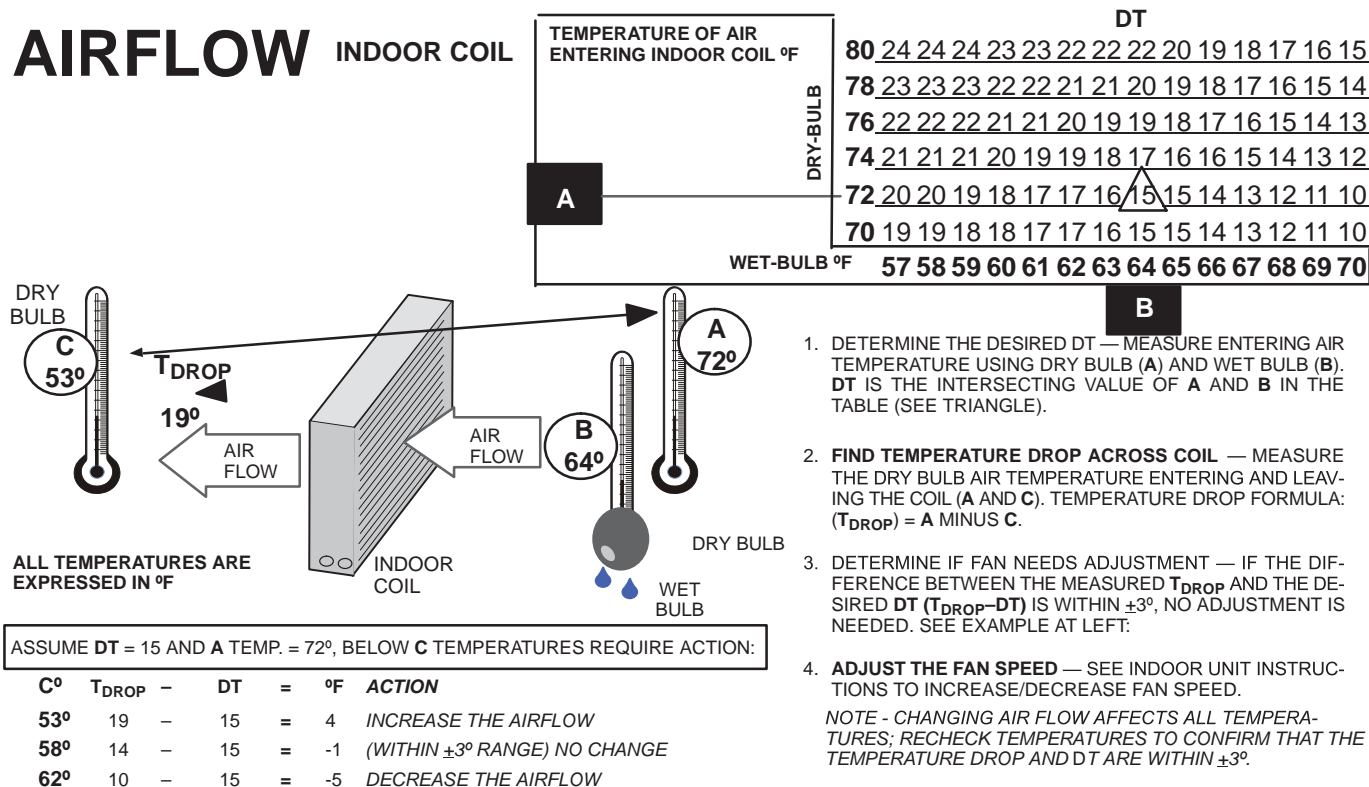

FIGURE 18. Checking Indoor Airflow over Evaporator Coil using Delta-T Chart
This system uses R-454B which operates at slightly lower pressures than HFC-410A. The field-installed liquid line filter drier is approved for use with R-454B. Do not replace any components designed for use with HCFC-22. Check airflow using the Delta-T (DT) process using the illustration in **FIGURE 18**.